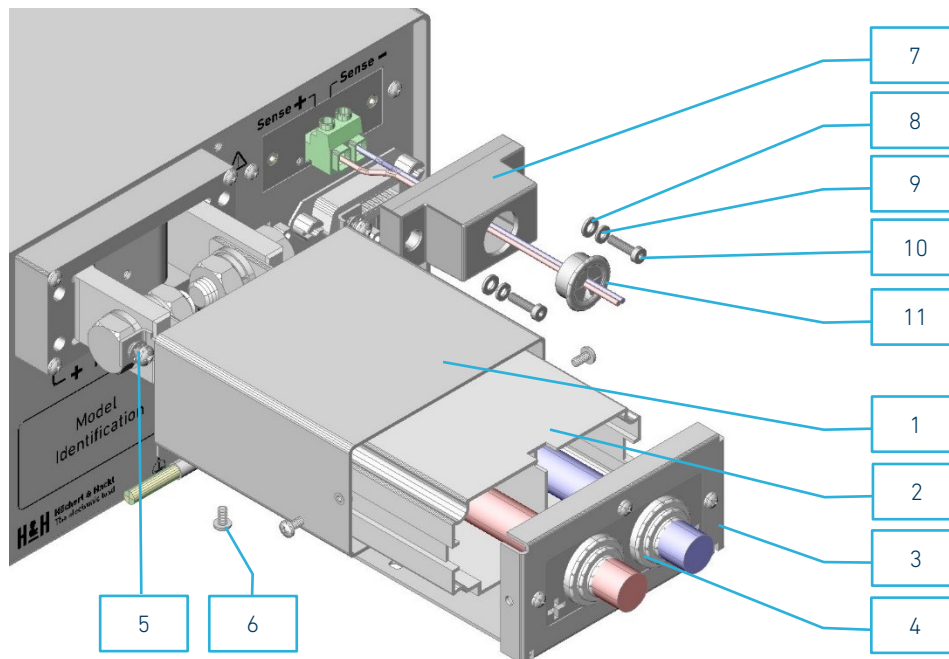

Figure 2.16: components and assembly of the SAB-HES-3 and SAB-HES-3S safety covers
The following numbers refer to Figure 2.16.
7. Insert the loose ends of the load cables through the cable grommets 4. Ensure correct polarity! Push the cover elements together as shown in Figure 2.16 and screw them back together using the screws 6 that were loosened previously.